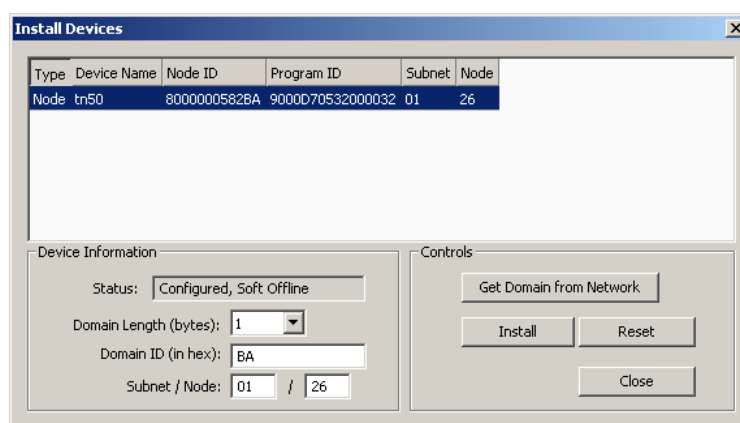

Figure 147: Install devices dialog.
- Click the **Install** button. This opens the **Install Devices** dialog as shown in Figure 147.